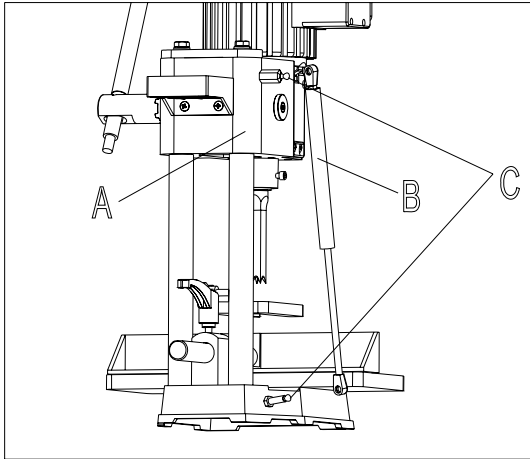

Fig4
1. Make sure head (A) Fig.4, is held in the up position and assemble the gas spring (B) to the two fittings (C), one located on the column and the other on the back of the head.